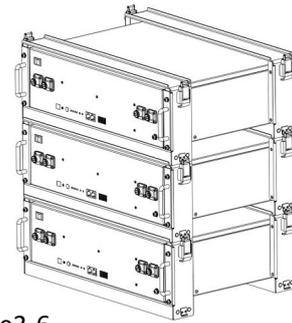

Figure3-6
4. Stack the required number of battery and bracket combinations as described above, and fasten the top and bottom buckles. Shown as Figure3-6.